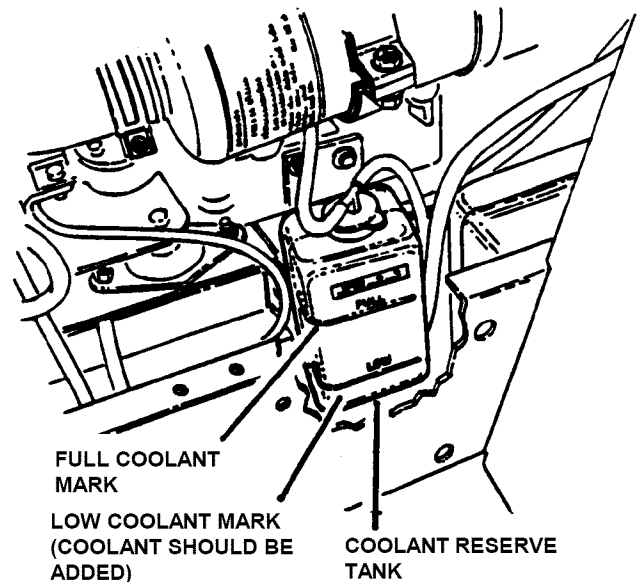

FIGURE 3.3
- 3.1.7. **COLD ENGINE ONLY** - Check engine coolant (antifreeze/water) and add coolant in the reserve tank as needed to bring level up to the FULL mark. Refer to engine owner's manual for coolant ratio specifications. See Figure 3.3.